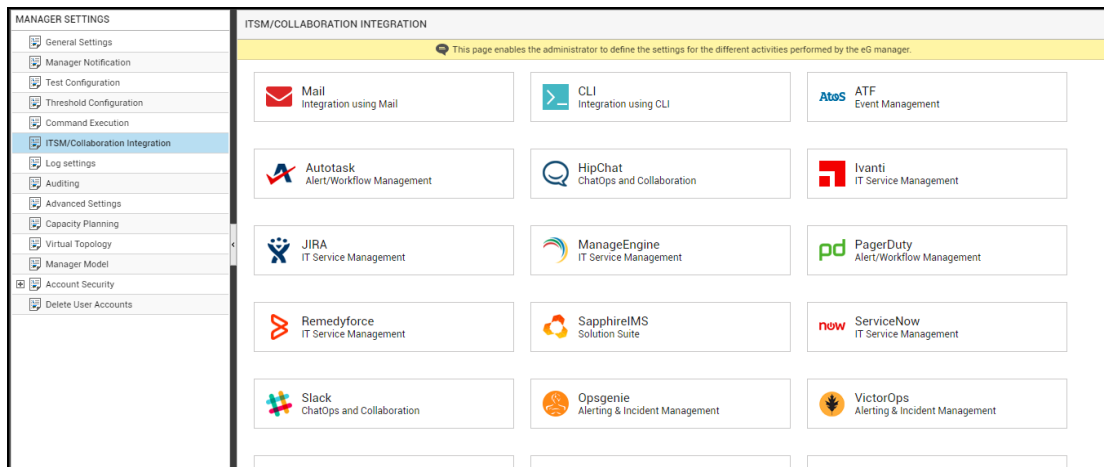

Figure 5.29: Viewing the ITSM/Collaboration tool options
3. Figure 5.29 will then appear. From the **MANAGER SETTINGS** tree in the left panel of Figure 5.29, select the **ITSM/Collaboration Integration** node. The third-party ITSM/Collaboration tools that eG Enterprise can integrate with will be listed in the right panel.
- Now, click on the **SapphireIMS** option in the right panel (see Figure 5.29). A **SapphireIMS** section will now appear in the right panel (see Figure 5.30).